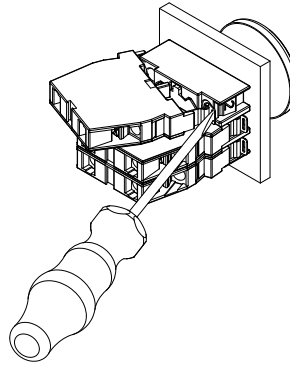

Fig. 8
1. Removal of the EF contact elements is carried out with the aid of a size 2 cross-point screwdriver (see fig. 8).